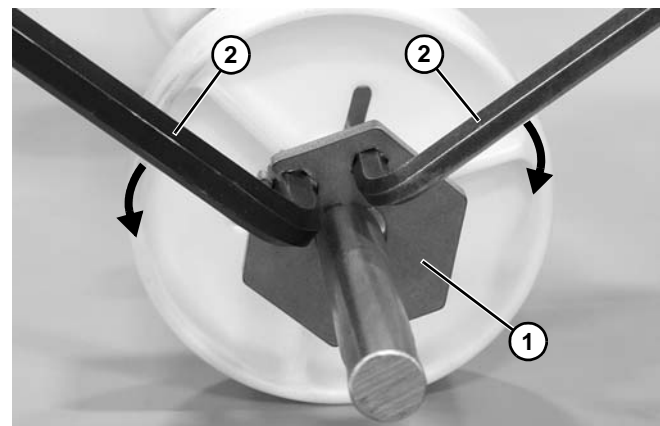

Figure 125
- c. To lock the retainer plate (**Figure 125, item 1**) in place, move the wrenches (**Figure 125, item 2**) away from each other.